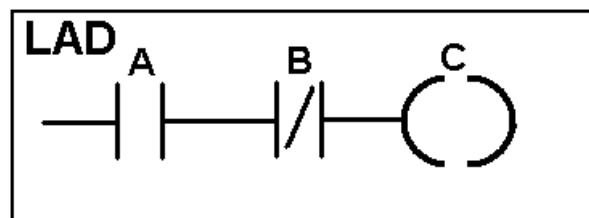

Fig 1.7 Ladder diagram
The PLC was developed to replace the wire technology for relay control systems then in use. So the graphical *Ladder Diagram* approach was developed to have approximately the look and feel of the relay diagram. As shown in Fig. 1.7 the horizontal line represents one *rung*. Each of the icons on the rung are considered to be either *true* or *false*. Symbols **A** and **B** suggest the contacts of a switch. Symbol **A** (corresponding to memory location **A**) is *true* only if the real normally-open switch **A** is closed (that is, *pressed*). Symbol **B** (corresponding to memory location **B**) is *true* only if the normally-closed switch **B** is *open* (that is, also *pressed*) The symbol **C** at the right (corresponding to memory location **C**), suggests a relay coil. It is *true* provided all the icons to its left on the same rung (**A** and **B**) are also *true*. To summarize, inputs are represented with NO $-|-$ or NC $-|/|-$ *contacts* and outputs are represented by *coils* $-()$.
- 12: In the *Ladder Diagram* shown in Fig. 1.7 could we interchange the positions of the icons $\neg|$ and $\neg|/$ and obtain the same performance? Could we interchange the positions of the $\neg|/$ and $\neg()$ icons? Give reasons for your answer..